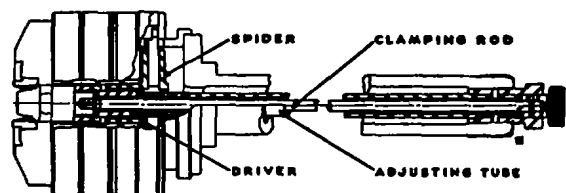

Figure 3
- (1) When setting up a 10C or 16C Pipe and Nipple Machine, the only operation necessary is to determine correct thread length.
- (2) The 10C and 16C Machines are equipped with Internal Trip Pipe and Nipple Threading Heads designed to thread, ream and chamfer simultaneously through the use of a reamer, Figure 3. Head opening is effected through an internal trip mechanism actuated by the pipe pushing the reamer rearward during the threading operation.
(3) The correct thread length is determined by measuring from the first full tooth of the chaser back to the land of the reamer (die head closed).
(4) Adjustment to the reamer to obtain correct thread length is made through the adjusting tube, Figure 3. First, release the clamping rod and rotate the adjusting tube, moving the reamer forward to decrease thread length or rearward to increase thread length.
(5) If adjustments are correctly made, the die head will trip open immediately upon completion of the desired thread length.